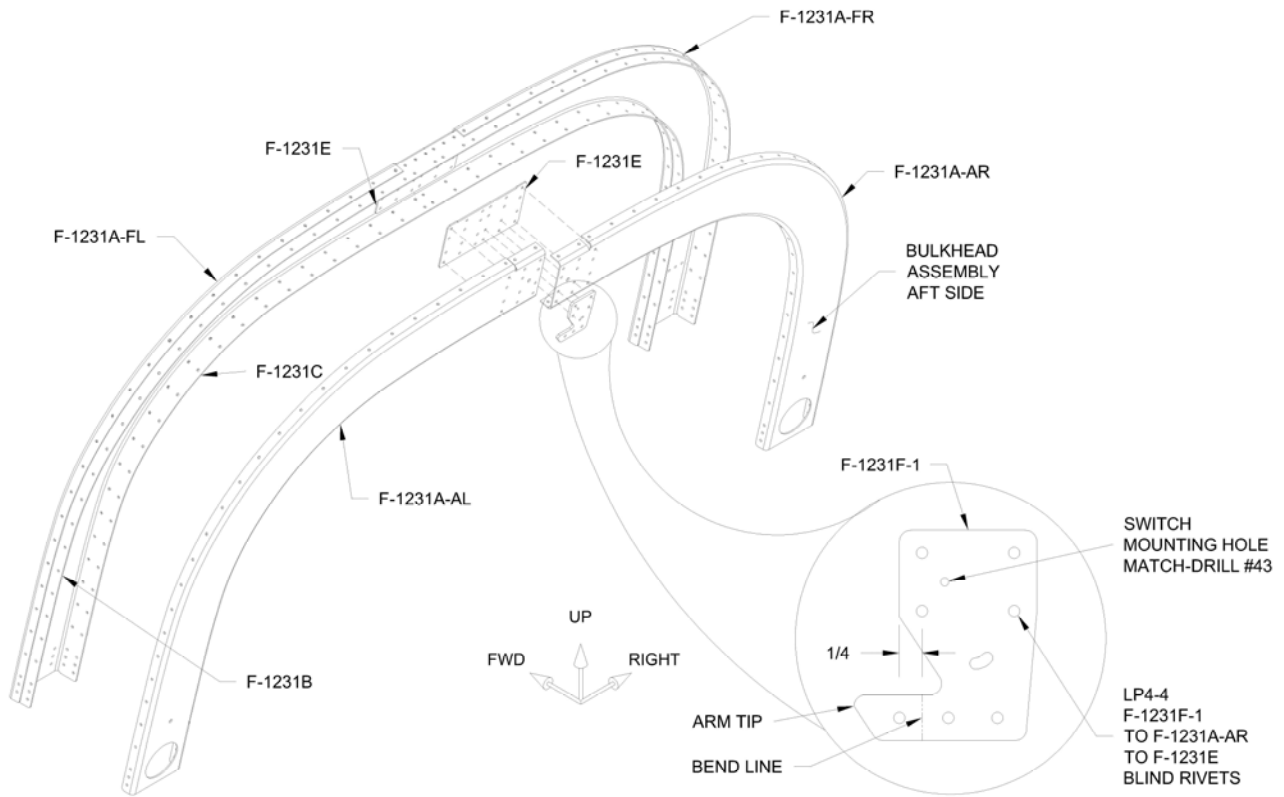

FIGURE 1: ADDING THE LATCH PLATE
Step 12: Cleco the F-1231F-1 Latch Plate to the F-1231A-AR Roll Bar Frame and aft F-1231E Splice Plate. Match-Drill #43 a hole in the roll bar frame and splice plate using the switch mounting hole as a guide. See the detail view in Figure 1.
Step 15: Curve the arm of the F-1231F-1 Latch Plate forward starting at the bend line shown in the detail view in Figure 1 until a 1/8 inch gap exists between the tip of the arm and a flat surface.
Step 16: Close the canopy and latch it shut. The flat portion of the WD-1218 Canopy Latch should slide down the ramp of the C-1205-1 Latch Block. There should be little or no friction between the canopy latch and the F-1231F-1 Latch Plate arm. See Figure 1.
Step 18: Rivet the F-1231F-1 Latch Plate to the F-1231A-AR Roll Bar Frame and aft F-1231E Splice Plate as shown in the detail view in Figure 1.